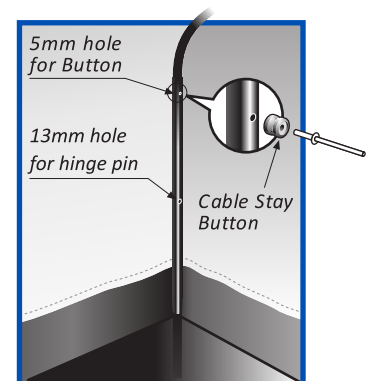

Fig. 2
- Drill the 5mm holes **through the inner wall** of the tube for attaching the cable stay buttons (Fig. 2).
- Fasten a cable stay button to each leg of the galley bow using rivets provided (Fig. 2).